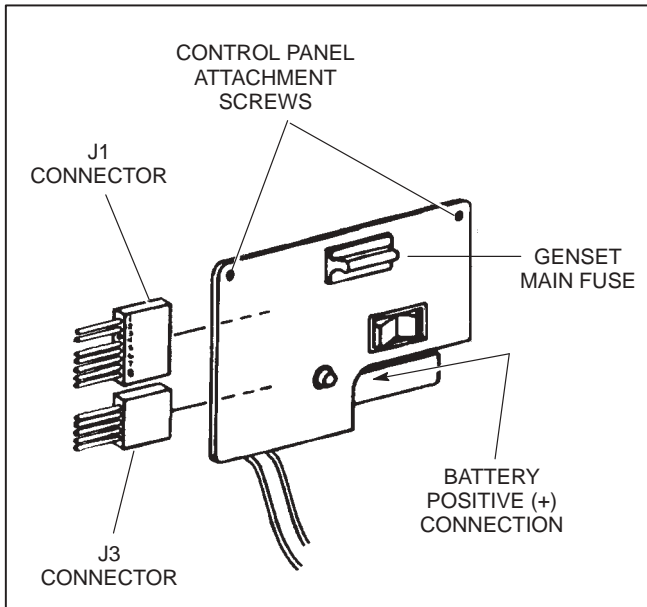

FIGURE 1: CONTROL PANEL ASSEMBLY (EARLIER VERSION w/J1 and J3 CONNECTORS)
5. Pull connectors J1 and J3 off the edge of the Control Circuit board. Remove the wires from the control panel wire retainer (Figure 1).